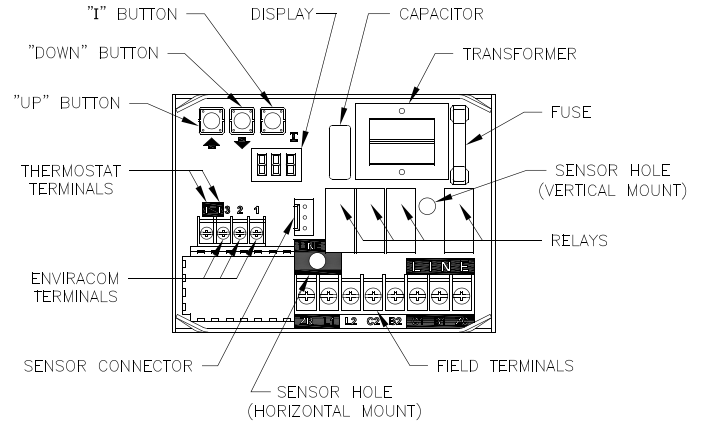

Figure 24: Intelligent Oil Boiler Control
- b. The boiler's sequence of operation is shown as Status Codes on Boiler Control display. See Table 8 and Figure 24.
- d. If the thermostat is not satisfied and the Operating Setpoint (SP) is reached the system circulator will continue to operate and the burner will stop. When the boiler water temperature drops below the setpoint less the differential setting the burner will restart.
- f. When an indirect water heater aquastat call for heat is wired to the "ZR" terminal the Boiler Control starts a domestic hot water circulator connected to the "ZC" terminal and when the boiler temperature is less than Operating Setpoint (SP), the boiler control energizes the oil primary to turn on the burner without circulator pre-purge delay.
- g. On burner start, if the CAD cell does not see flame within approximately 15 seconds, primary control will shut down the burner and enter into a lockout mode. A lockout is reset by pressing the reset button located on the primary control. If the flame is lost while the burner is firing, the primary control shuts down the burner, enters a 60 second recycle delay, and repeats the ignition sequence. If after three (3) trials for ignition, flame is not detected, primary control will enter into restricted mode. Restricted mode is reset by holding down the reset button for 15 seconds.